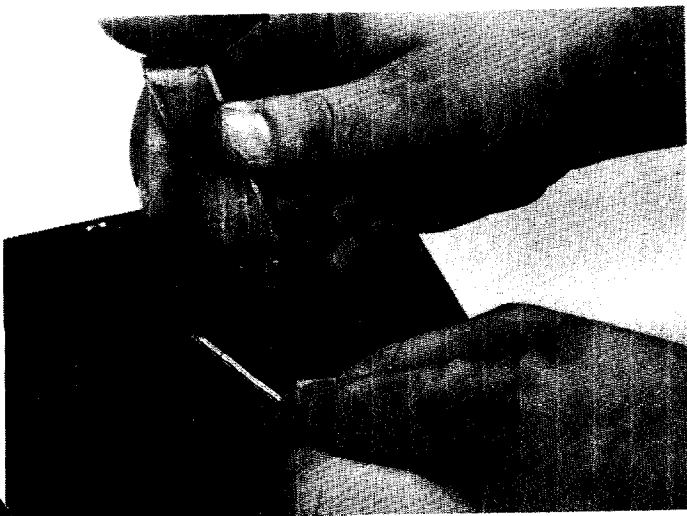

FIGURE 27 - Float Valve Cotter Pin
- d. Remove the cotter pin from the float valve assembly; see Figure 27.